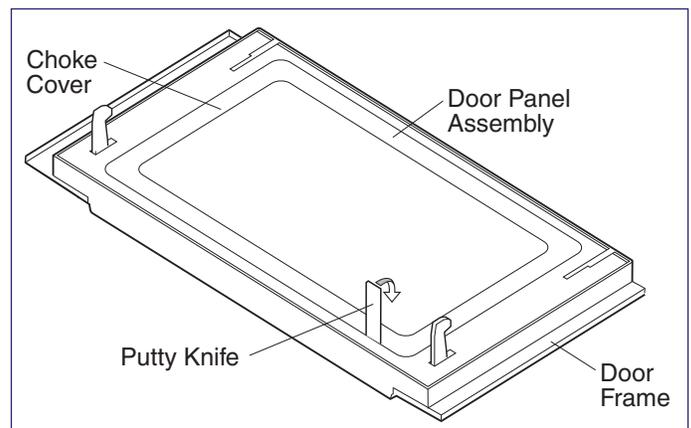

Figure 4-8. Door Disassembly
7. Insert a putty knife (thickness of about 0.5mm) into the gap A between the choke cover and door stopper and between the choke cover and the door frame as shown in Figure 4-8 to free engaging parts.
8. Pry the choke cover by inserting a putty knife in order shown in Figure 4-8.